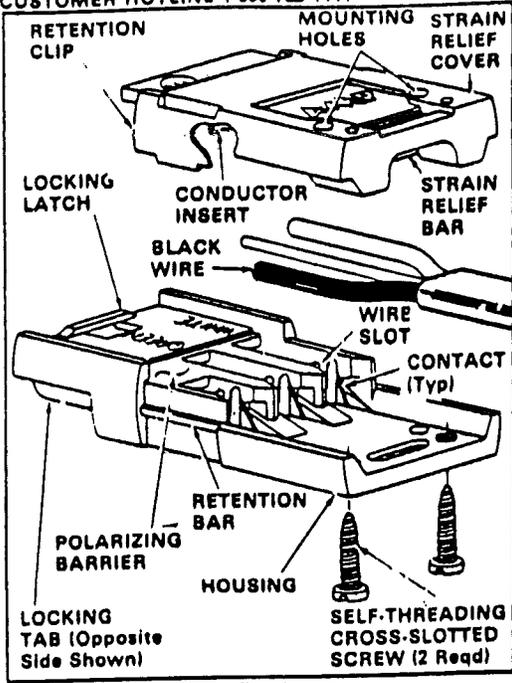

Fig. 1
This instruction sheet (IS) covers the joining of nonmetallic sheathed cables using AMP Type NM-1 Cable Splice 207877-1 shown in Figure 1.
The strain relief cover features three conductor inserts, two retention clips, a strain relief bar, and two holes to receive the cross-slotted screws. See Figure 1.